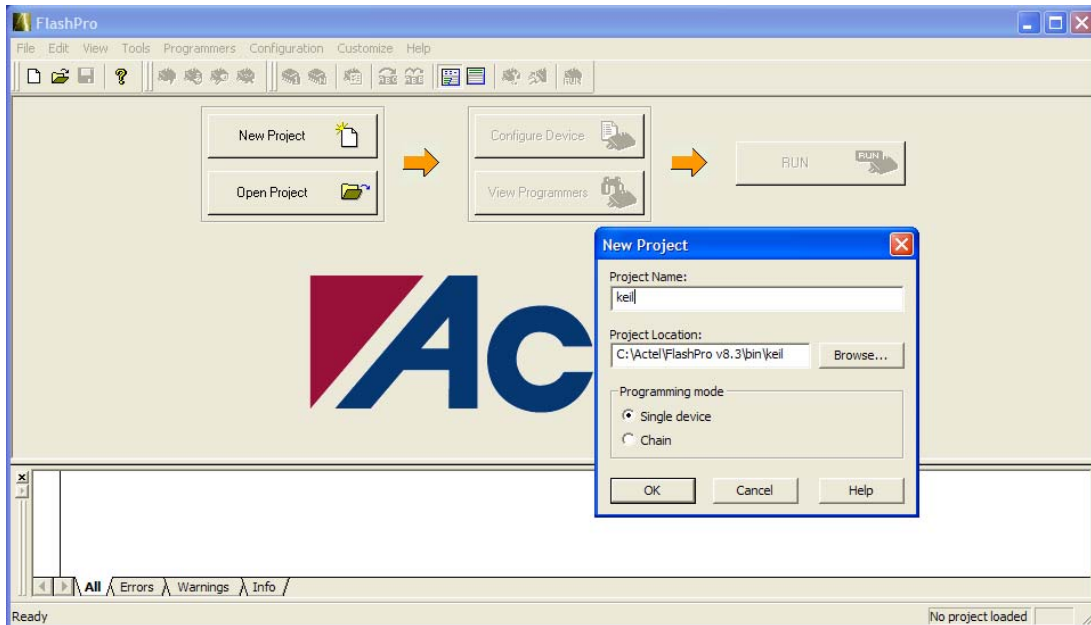

Figure 1 FlashPro “New Project”
- 2) **Create a new project:** In the FlashPro window click on New Project and enter a project name. I chose **Keil** as shown in Figure 1. Click on OK.